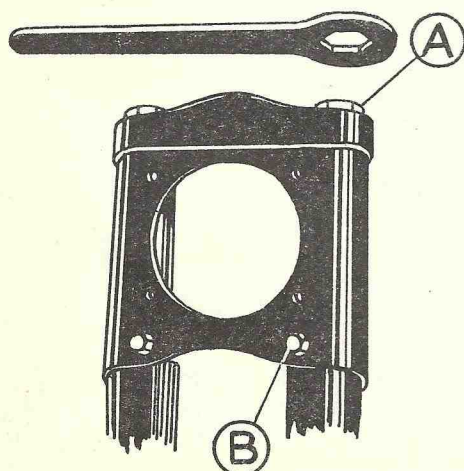

Fig. X1.
Remove the front wheel and front mudguard. Take out the fork top cap (A) Fig. X1, screw Service Tool part number 61-3350 into the thread at the top of the fork shaft using the larger of the fine threads.
Slacken off the pinch bolt (B) Fig. X1.